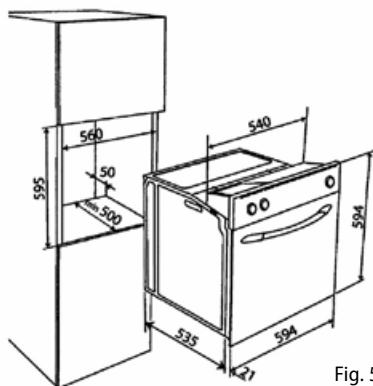

Fig. 5a
2. For the required built-in box dimensions see Fig. 5a, 5b. For the sake of efficient air circulation the unit has to be located according to the dimensions on the pictures and the design of the cabinet must enable air flow into its bottom part. The gap behind the rear wall of the built-in oven must be at least 50 mm.